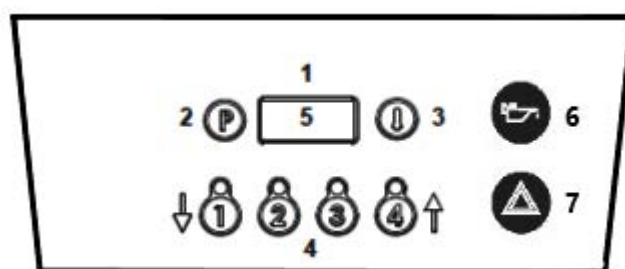

Figure 5 – G402X/G402FX Control Panel
### 2.4.3 G402x/G402FX Fryer Control Panel (See Figure 5)
**2.4.4 G401/G401X/G401F/G401FX/G402/G402F Additional Controls (See Figure 5)**